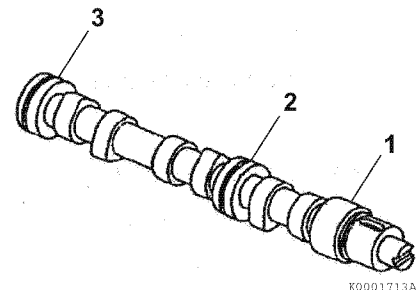

Figure 6-81
4. Measure the diameter of the gear end (Figure 6-81, (1)), intermediate (Figure 6-81, (2)), and flywheel end (Figure 6-81, (3)) bearing journals. Record the measurements. See Camshaft on page 6-6 for specifications.